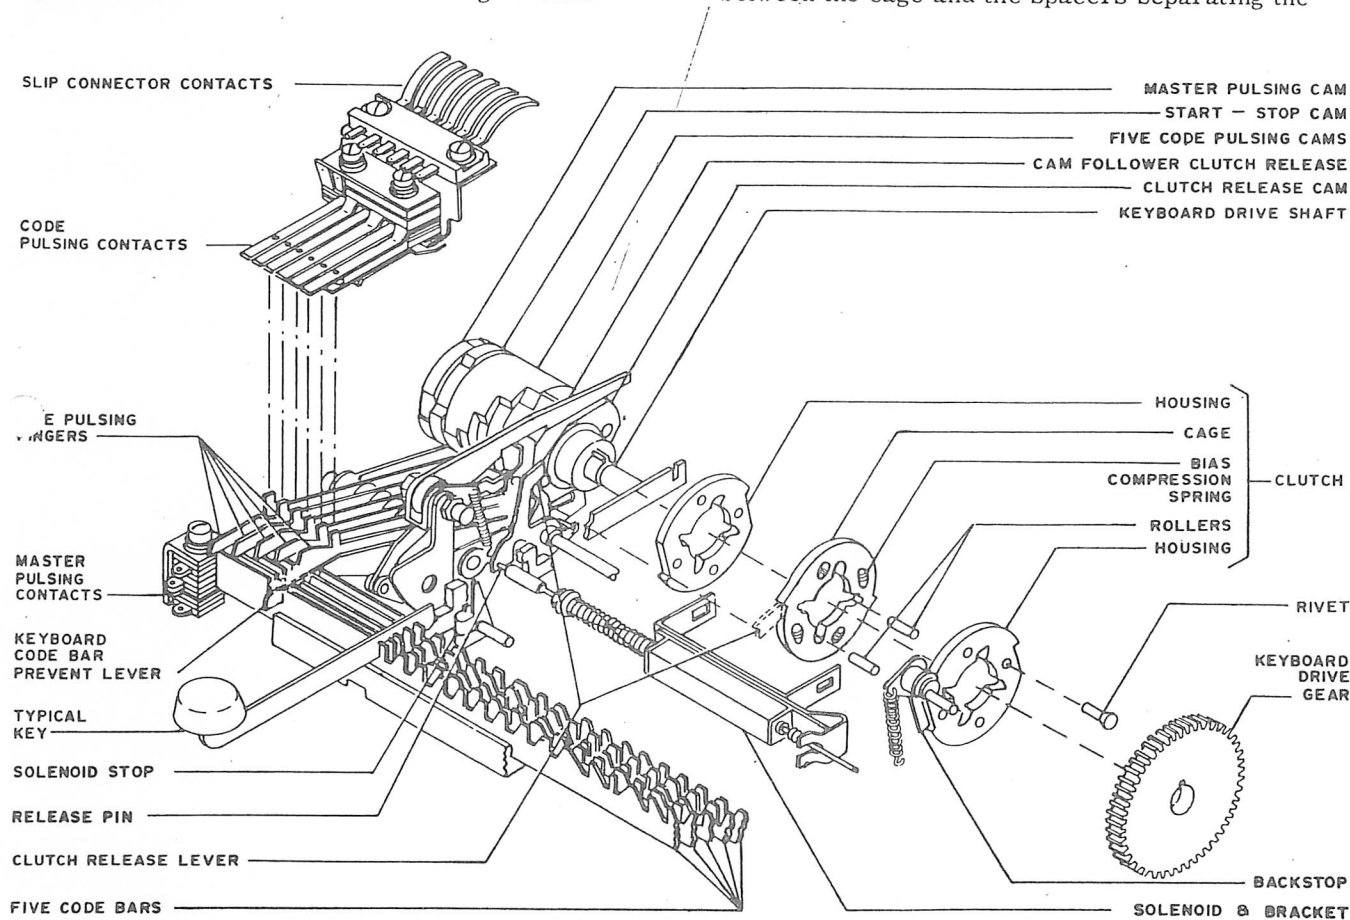

Figure 4-5. Keyboard TT532/UG(1A4), Mechanical Diagram
(1) MECHANICAL FUNCTIONS. - Keyboard TT532/UG(1A4) (Figure 4-5) consists of a keyboard drive gear (coupled to the printer motor), a drive shaft which rotates continuously as long as the motive power is applied, a clutch mechanism coupled to a set of five code pulsing cams, code pulsing contacts, master pulsing cam, contacts, and a set of five code bars which set up the mechanical code appropriate to the selected character of function.
The clutch, which is mounted on the drive shaft (Figure 4-5) consists of two housings, a cage, four rollers, two bias compression springs, and two spacers. The housings and the cage are connected by four rivets and two spacers so that the housings are rigidly connected and the cage is free to rotate approximately 10 degrees around the drive shaft in relation to the housings. Bias compression springs, between the cage and the spacers separating the